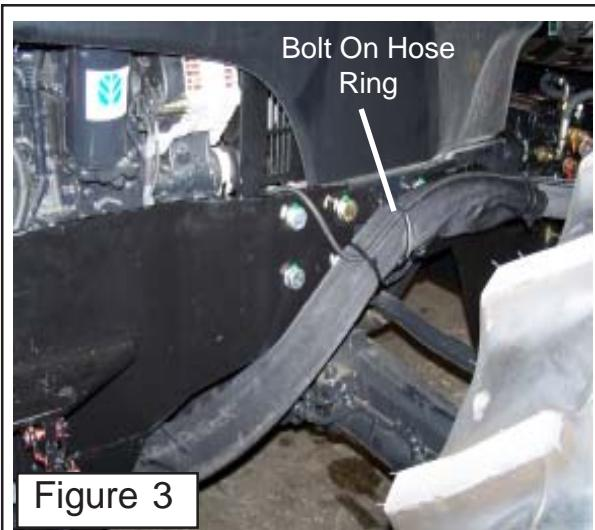
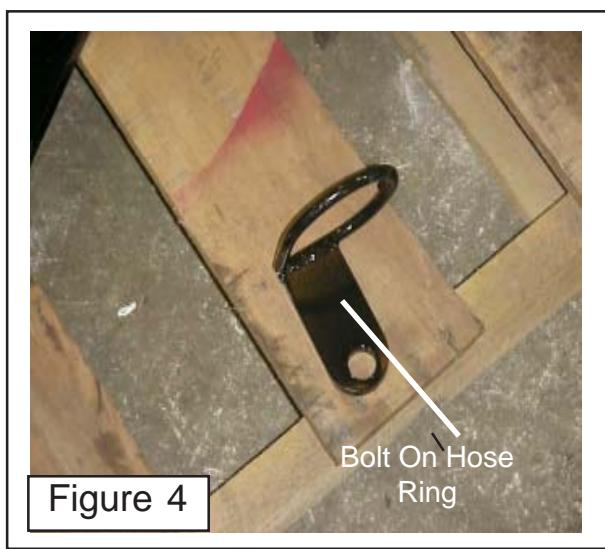
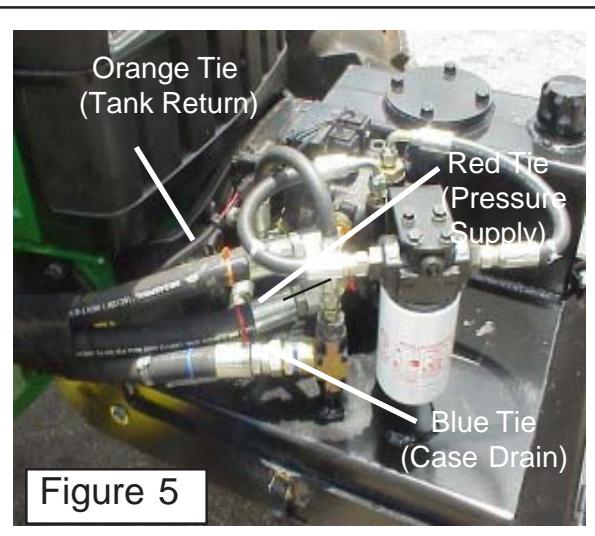

Figure 3
Figure 4
Figure 5
**CONNECTION:** (See Figure 5, 6 & 7)
3. Install Push / Pull Switch & Switch Mounting Bracket. The push pull switch bracket will bolt to the side panel in the cab. The exact location can vary as long as it is mounted in a convenient location for operator. Alamo industrial recommends mounting bracket as shown. The Switch will mount to bracket. Plug the wire harness plug to switch (See Figure 5 & 6).
2. Run Hoses Along Side RH Frame Rail. The hoses rub up and over under beam and back along the RH side of Tractor Frame. Install hoses through the sleeving material furnished (See Figure 3). Hoses will be run through a bolt hose ring (See Figure 4). Hoses will then be connected to the tank and pump as shown (See Figure 5)